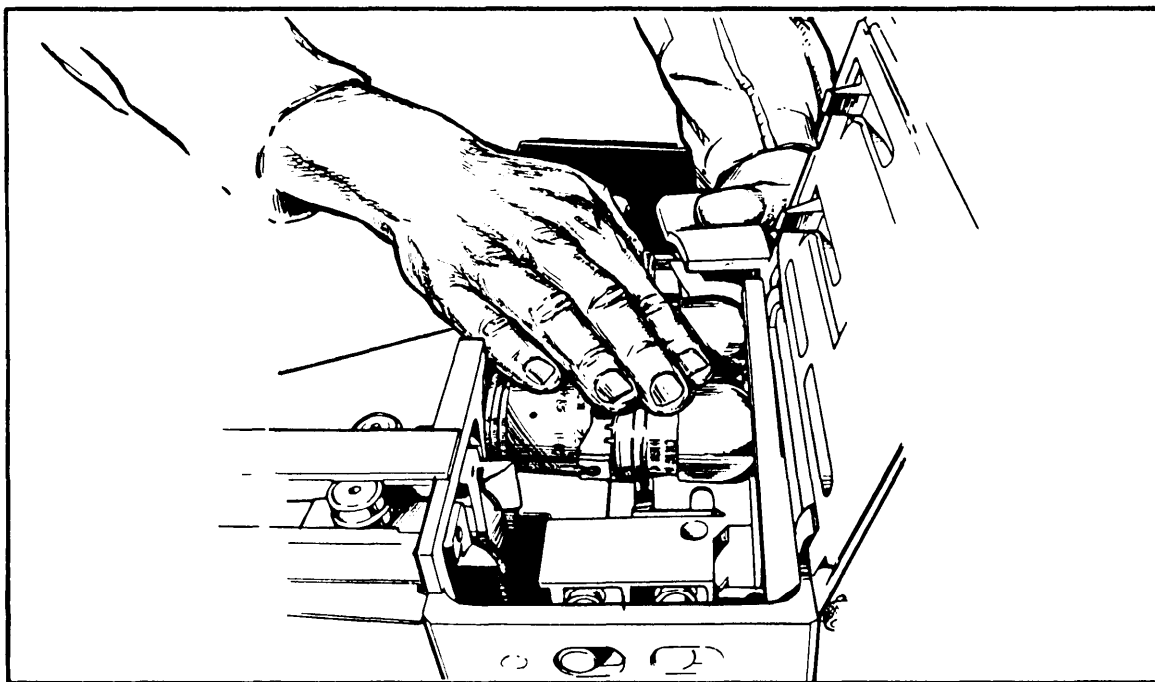
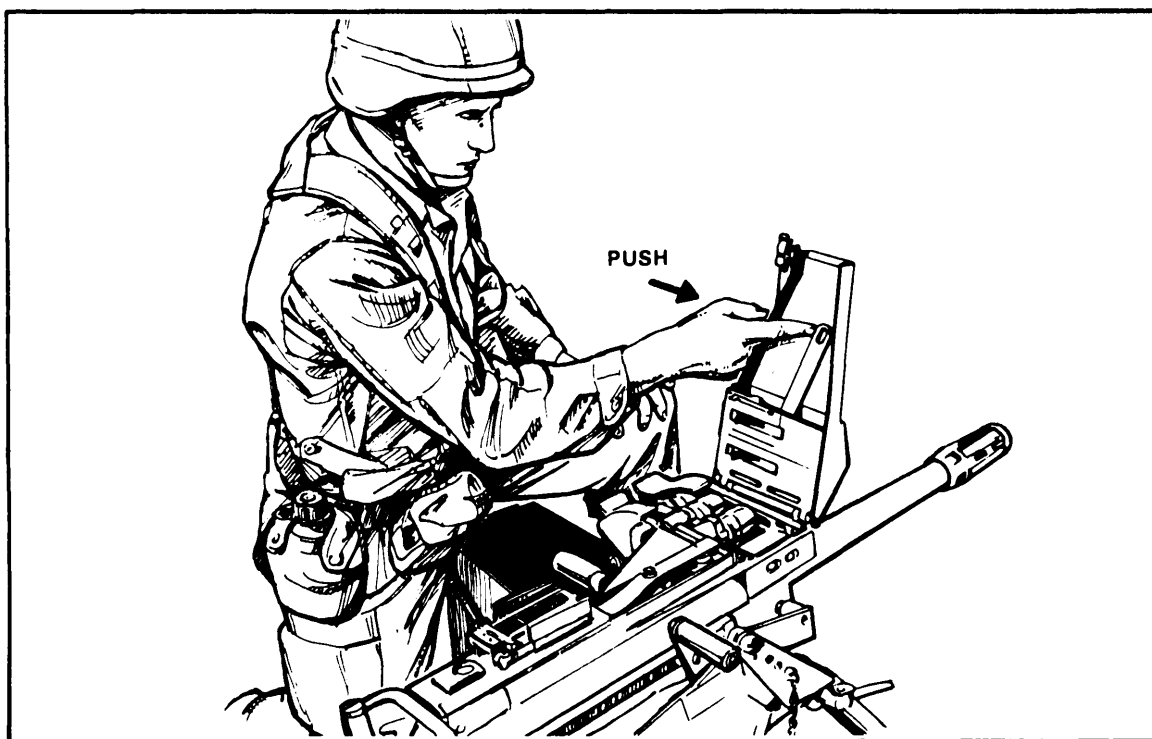

Figure 4-10. Placement of the round across the primary feed pawl.
Figure 4-11. Feed slide assembly moved to the left.
(4) The gunner opens the top cover. The assistant gunner inserts the first round into the feeder, female link first, pushes the first round across the primary feed pawl (Figure 4-10), and moves the feed slide assembly to the left by pushing the secondary drive lever to the right (Figure 4-11).